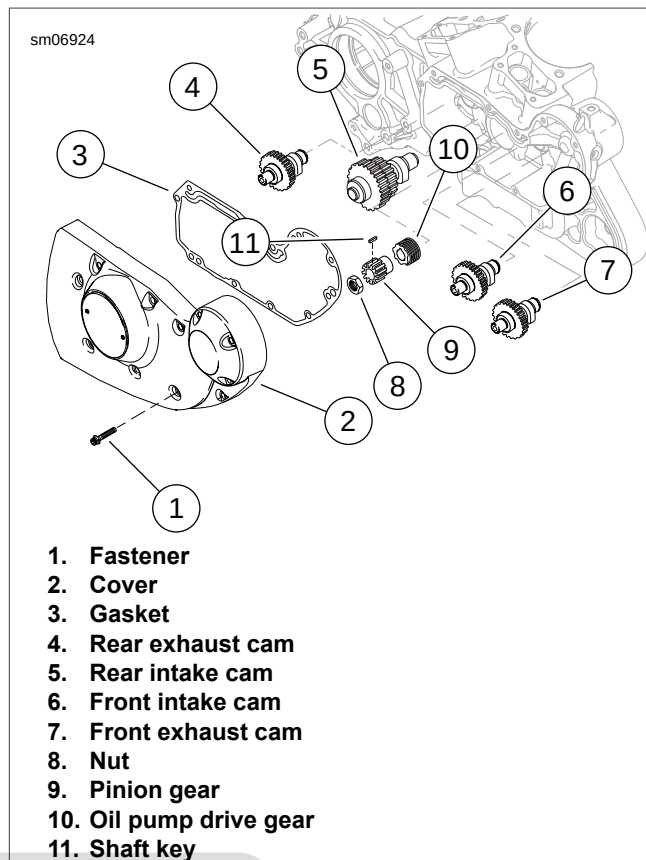

Figure 3-106. Gearcase Cover and Cam Gears
5. See Figure 3-106. Remove cover screws (1) and cover (2). Discard old gasket (3).